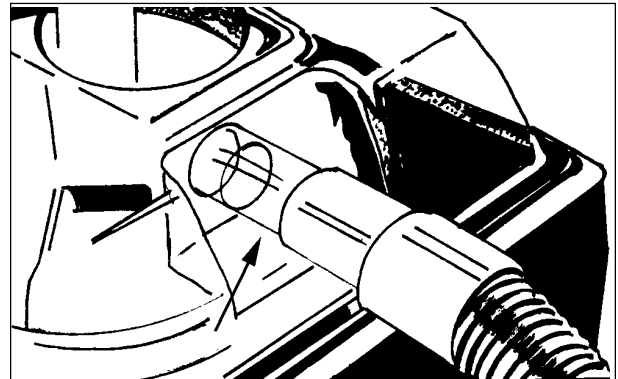

Figure 2
**The Vacuum Hose Connector** See figure 2